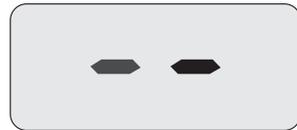
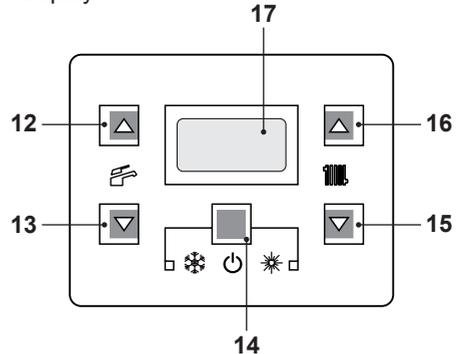

Fig. 7.7
Fig. 7.8
- Electrically power the boiler by switching on the double pole isolation switch. The LCD will display, the  symbol (Fig. 7.7).
- Press the 14 key for 2 seconds until both  and  symbols appear on the display Fig. 7.8.
- Switch off the boiler by pressing the 14 (Fig. 7.8) key for 2 seconds until the  symbol appears on the LCD display (Fig. 7.7).
Press the reset key on the boiler control panel 14 (Fig. 7.8) to reset its functioning.